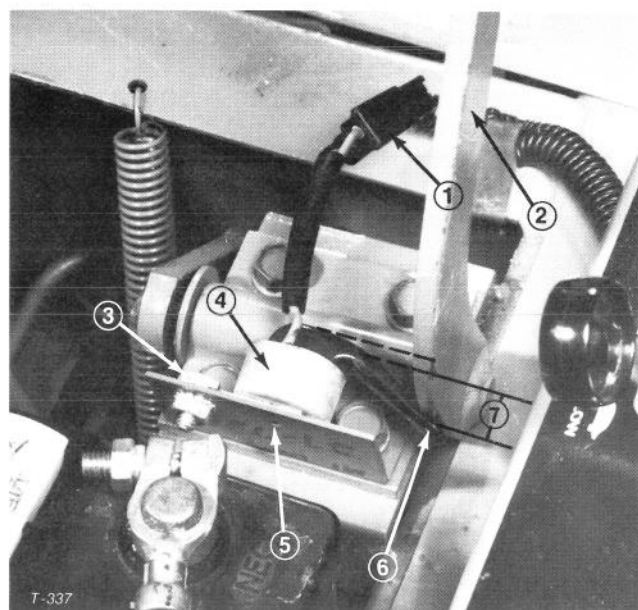

Figure 41
2. Disconnect negative battery cable from battery and separate wire harness connectors (Fig. 41).
3. Move PTO lever to the ON position and remove capscrew and locknut holding switch against mounting bracket (Fig. 41).
4. Install new switch with capscrew and locknut. Move PTO lever to OFF position. When lever is in its normal, released position, the switch arm must bend about 1/2 inch (13 mm) (Fig. 41). If switch arm does not bend 1/2 inch (13 mm), bend the mounting bracket to get the correct adjustment.